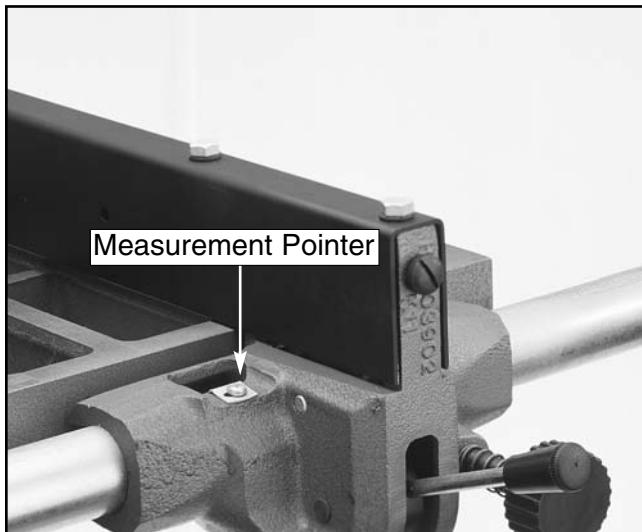

Figure 36. Adjust measurement pointer.
- Once the fence is adjusted, check the measurement pointer shown in **Figure 36** and adjust if necessary.